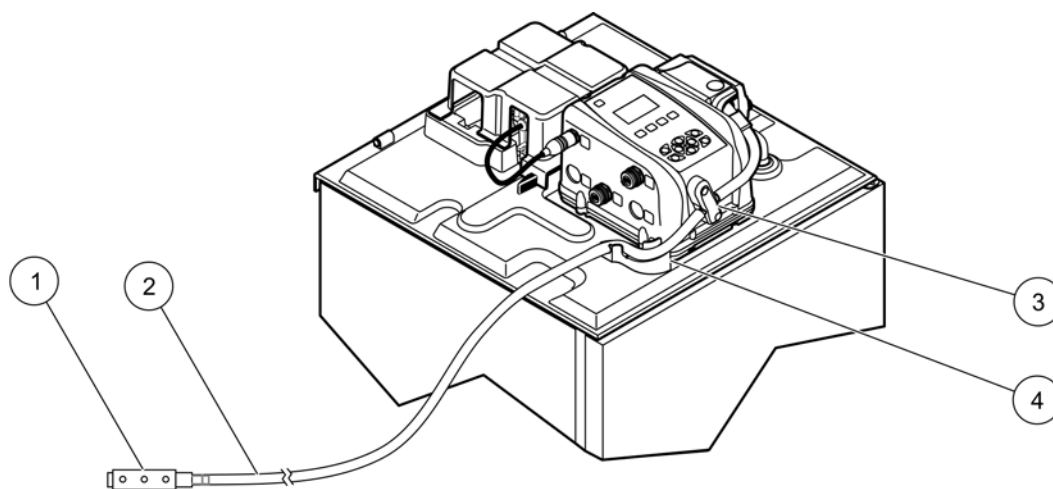
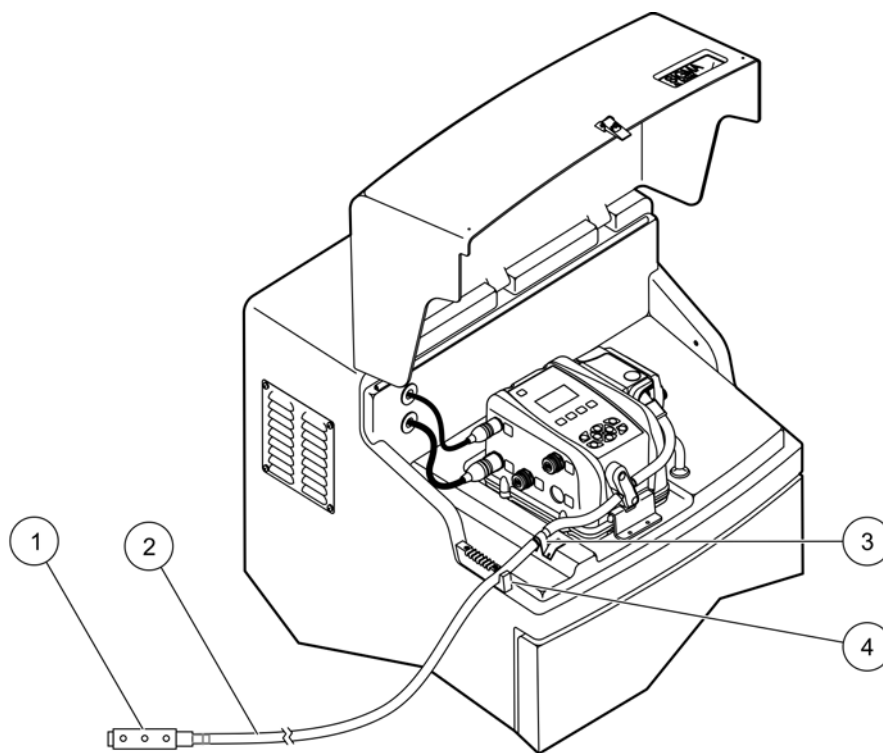

Figure 13 Refrigerated sampler intake tubing installation
Figure 14 All weather refrigerated sampler intake tubing installation
2. Press the tubing into the strain relief (Figure 13 or Figure 14).